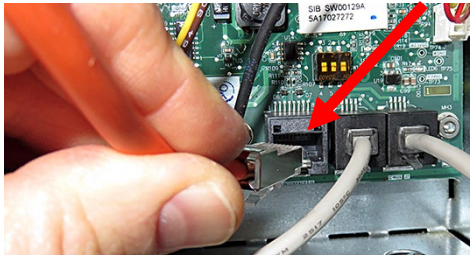

Figure 15
- Disconnect the RJ45 cable from the SIB board FIRST (see Figure 15).**